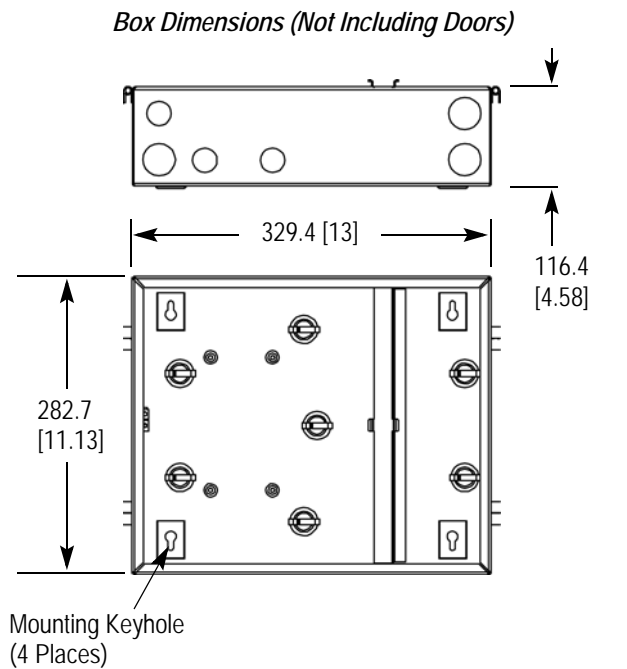

Figure 2
3.1. Mounting the Box (Figure 2)
2. Disengage each latch, and open the doors. Secure the box to the surface with appropriate hardware using the mounting keyholes. Refer to Figure 2 for mounting dimensions.